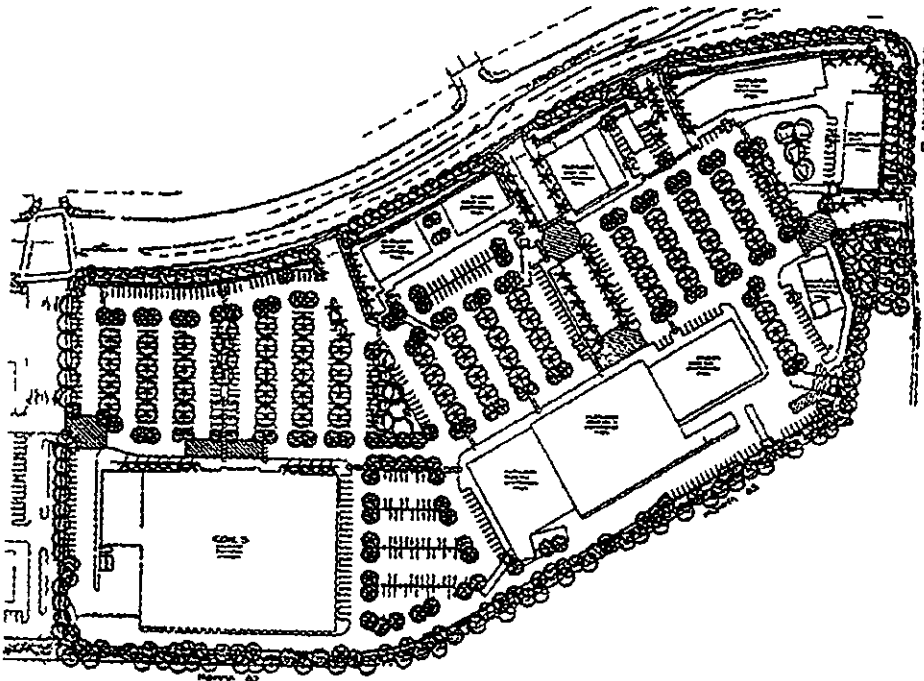

Figure L.1 Landscape Plan
1. Assuring consistent aesthetic quality will enhance the consistency of the center. Plant patterning shall be consistent throughout the center in order to unify the site while allowing special accent zones where appropriate. The Landscape Development shall conform to the approved Landscape Plan as approved by the City of Roseville. (Refer to Figure L.1)
Major Driveways shall be accented with *Washingtonia robusta*/Fan Palms where shown in Figure L 1 They shall incorporate low colorful shrubs and groundcovers to enhance driveway patterns Low to medium water use plant material shall be utilized whenever possible